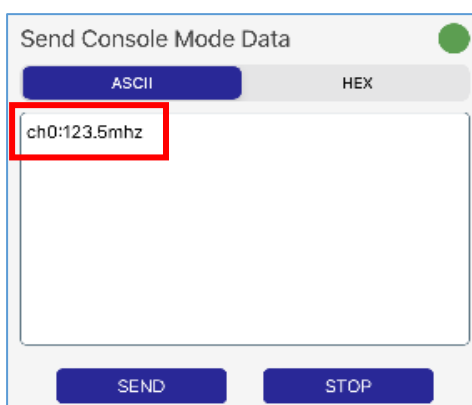

Figure 10. Enter the Target Clock Frequency
5. Type the target clock frequency or real-time clock via keyboard (see Figure 10) and click *Send*. The clock frequency of this specified channel is changed and output to the LCD.